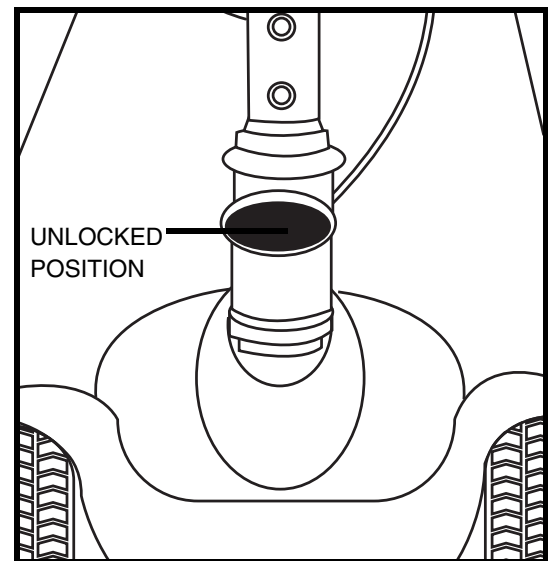

Figure 21A. Tiller Lock Knob (Unlocked)
6. Unlock the front wheel by turning the tiller lock knob 90° counterclockwise. See figure 21A.